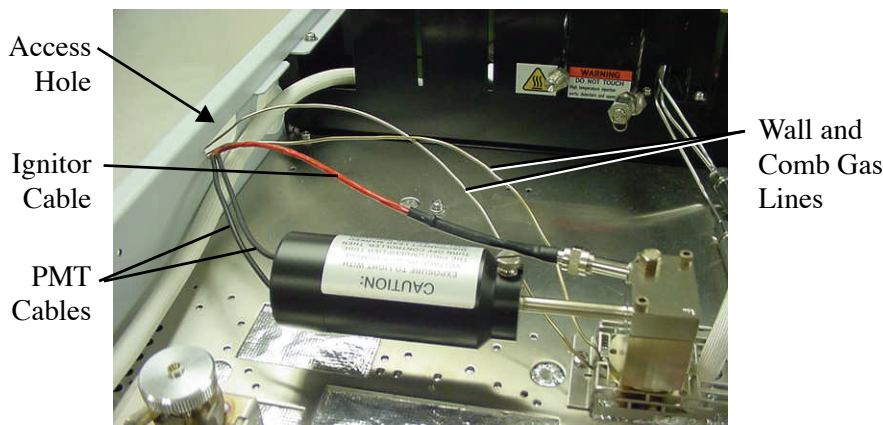

Figure 4.14. Routing the cables and combustion gas lines
10. Run the PMT cable, the ignitor cable, and the wall and combustion gas lines through the access hole in the left side of the GC (refer to Figure 4.14).